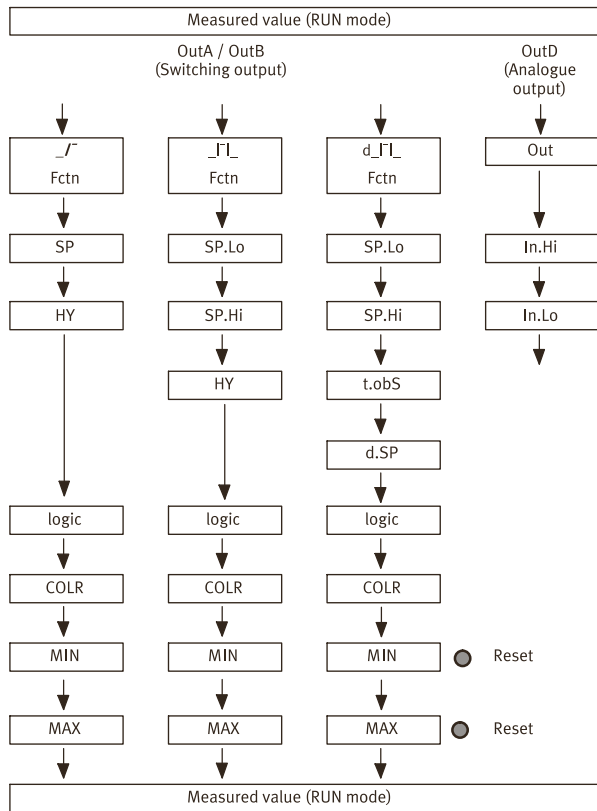

Fig. 5
The following parameters can be displayed by repeatedly pressing the A pushbutton → Fig.5. At the end, the min. and max. values are displayed. This can be reset with the Edit pushbutton.
The following parameters are displayed by repeatedly pressing the B pushbutton → Fig.5.
#### Legend for → Fig.5
- Repeat points 4 and 5 until all parameters are set → Fig.5.